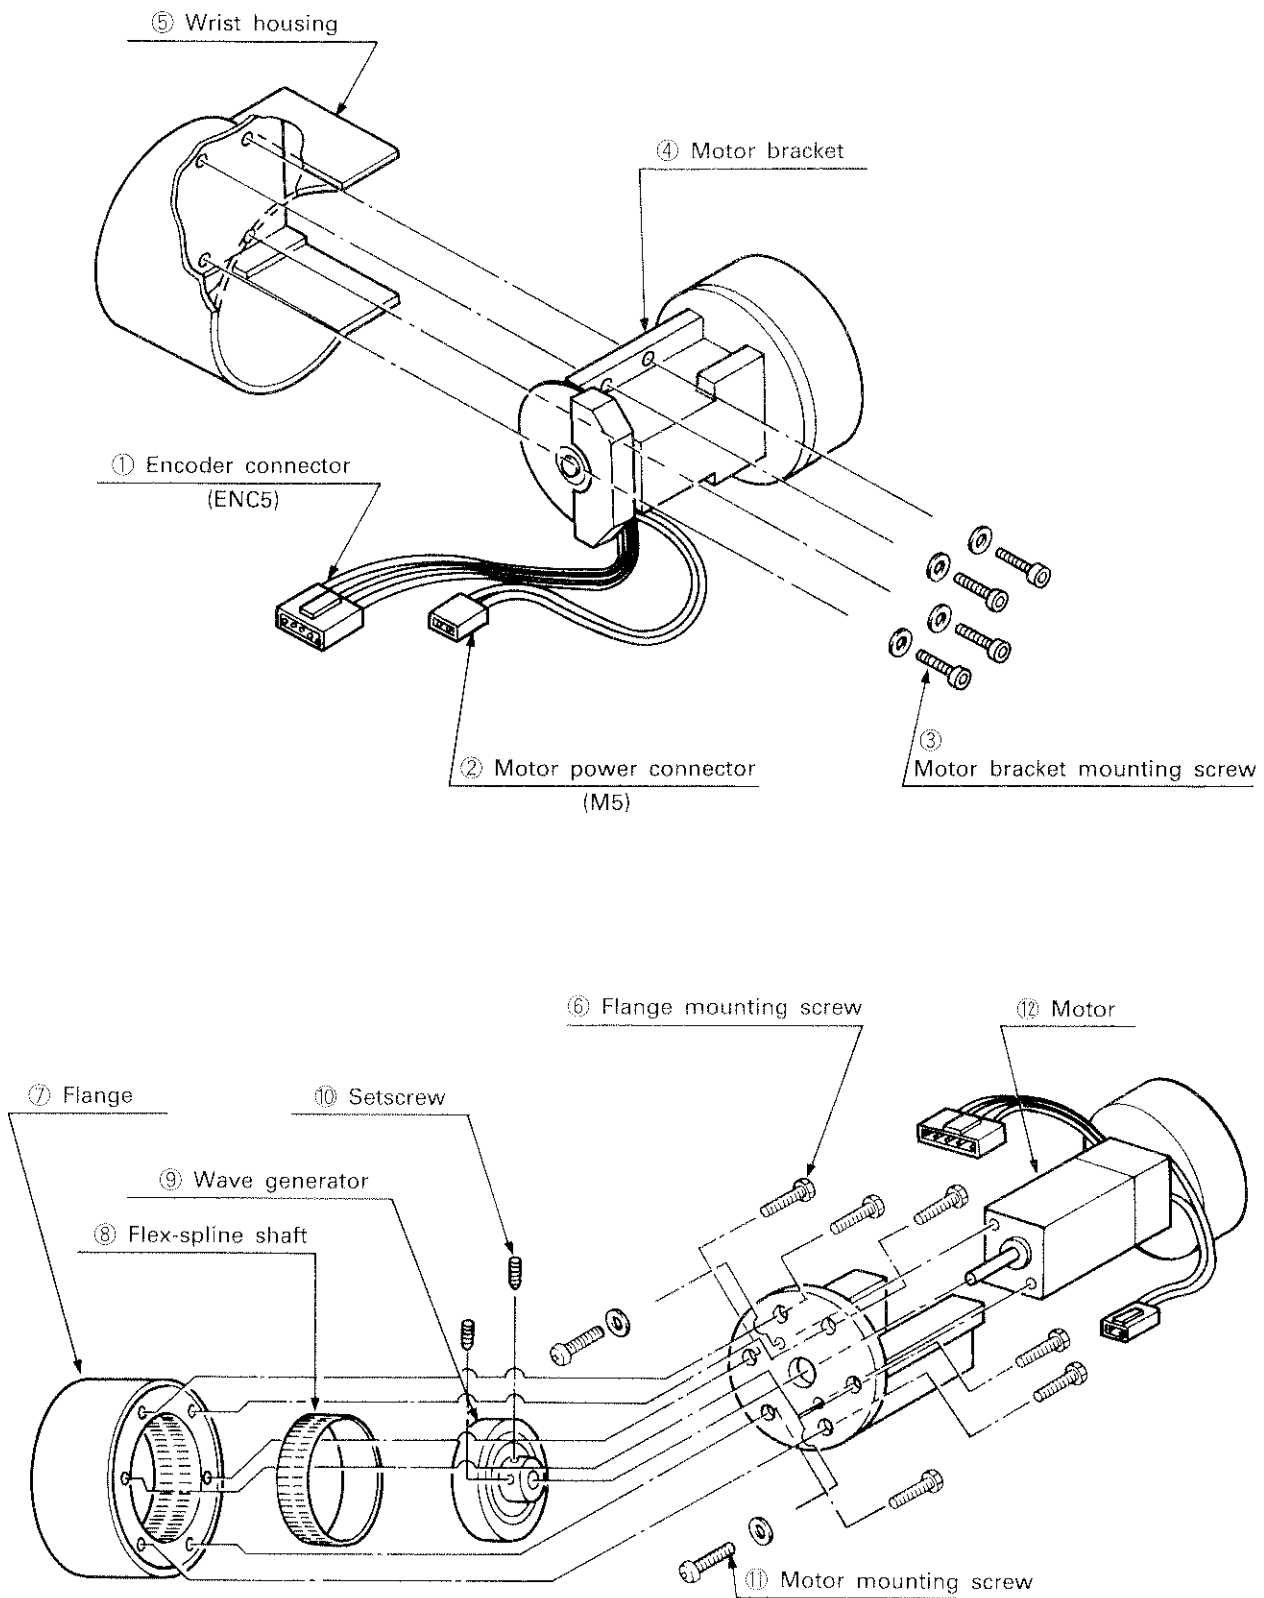

Fig. 4.3.7 Replacing the Wrist Roll Drive Motor
- (1) Fig. 4.3.7 outlines the replacement procedure of the wrist roll drive motor.
- (2) Remove the fore arm cover by referring to 3.2 Removal of the Covers.
- (3) The J5-axis encoder connector ① (connector name: ENC5) and J5-axis motor power connector ② (connector name: M5) are connected to the motor inside the fore arm. Remove these wires from the motor.
- (4) Remove the motor bracket ④ from the wrist housing ⑤ by removing the four motor bracket mounting screws ③.
- (5) Remove the six flange mounting screws ⑥ to remove the flange ⑦ from the motor bracket ④. At this time, the flex-spline shaft ⑧ and wave generator ⑨ of the harmonic drive reduction gear are also removed from the motor bracket. They remain installed on the motor shaft.
- (6) Remove the setscrews ⑩ that secure the wave generator ⑨ to the motor shaft and remove the wave generator ⑨ from the motor.
- (7) Make sure that the splines in the flex-spline shaft ⑧ and steel balls of the wave generator ⑨ are free from contaminants.
- (8) Remove the two motor mounting screws ⑪ from the motor bracket ④.
- (9) To install a new motor, reverse the order of removal.
- (10) After changing the motor, check the limit pulses in accordance with Section 3.7.